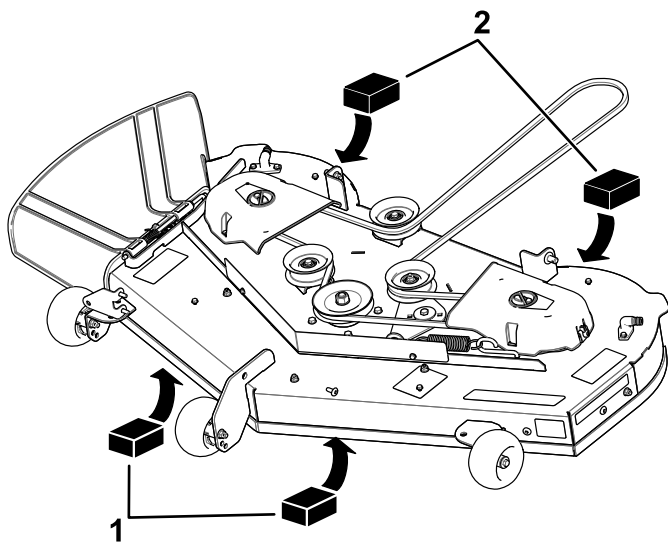

Figure 69
4. Place 2 blocks, each having a thickness of 6.6 cm (2-5/8 inches), under each side of the front edge of the deck but not under the anti-scalp roller brackets (Figure 68 or Figure 69).
5. Place 2 blocks, each having a thickness of 7.3 cm (2-7/8 inches), under the rear edge of the cutting deck skirt, 1 on each side of the cutting deck (Figure 68 or Figure 69).